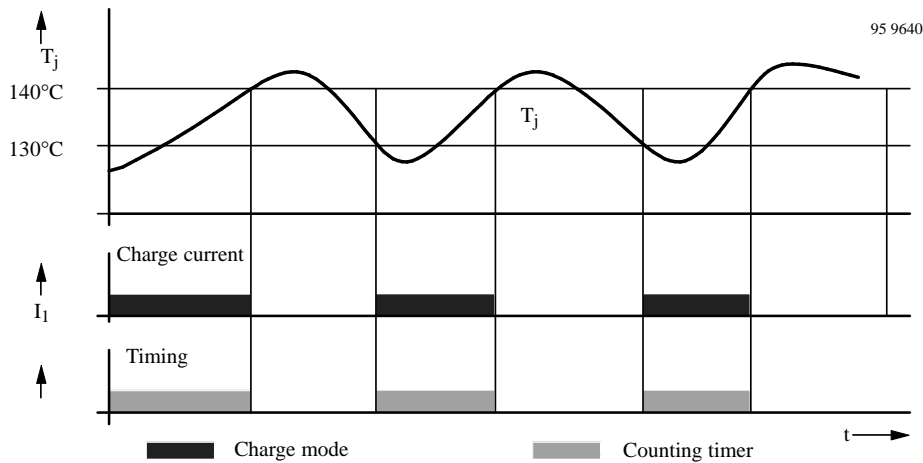

Figure 4. Charge duration – overtemperature
The oscillator is connected to GND via Pin 3 (V_3) which holds the present time status. When the chip temperature decreases below the transition value, all functions are released and the charge time is continued. The process is reversible. If there is a higher power dissipation in the circuit ($T_j > 140^\circ\text{C}$), the temperature monitoring remains permanently activated (ON). The total cycle time is prolonged according to the interrupt-time duration, see figure 4.